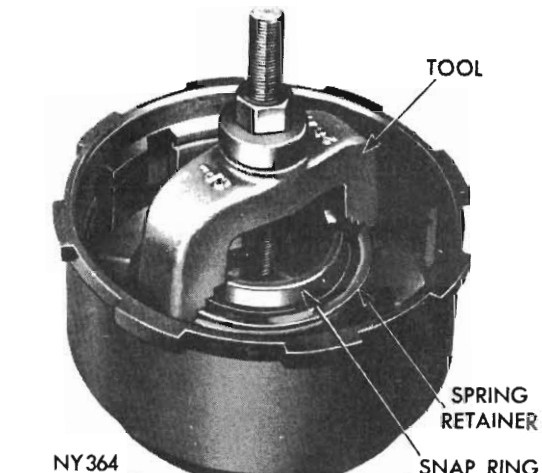
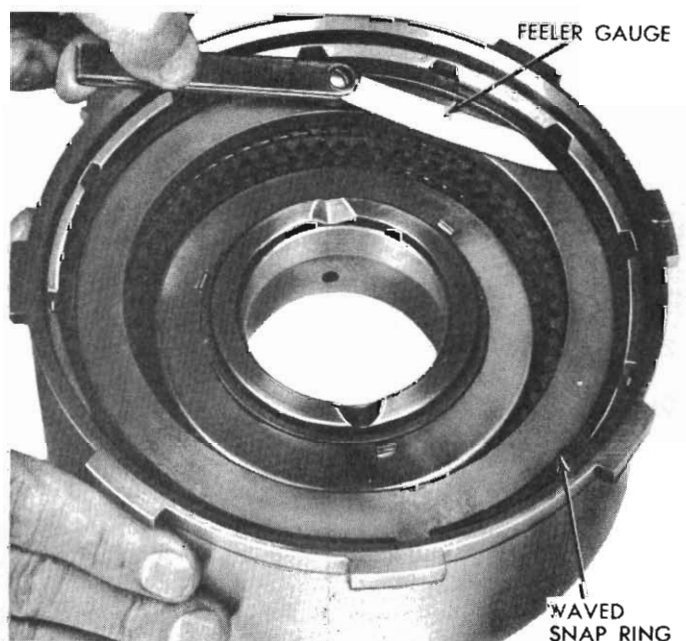

Fig. 71 - Removing or installing front clutch spring retainer snap ring (A-904)
Fig. 73 - Measuring front clutch plate clearance
(1) Remove large waved snap ring that secures pressure plate in the clutch piston retainer. Lift pressure plate and clutch plates out of the retainer.
(2) Install compressor, Tool E21C30C over piston spring retainer (Fig. 71). Compress spring and remove snap ring, then slowly release tool until spring retainer is free of the hub. Remove tool, retainer and spring.
(3) Invert clutch retainer assembly and bump it on a wood block to remove the piston. Remove seal rings from the piston and clutch retainer hub.
(2) Lubricate and install outer seal ring on clutch piston, with lip of seal toward bottom of clutch retainer. Place piston assembly in retainer and, with a twisting motion, seat piston in bottom of retainer.
(3) Place spring on piston hub and position spring retainer and snap ring on the spring. Compress spring with Tool E21C30C (Fig. 71), and seat snap ring in hub groove. Remove compressor tool.
(4) Lubricate all clutch plates, install one steel plate followed by a lined plate until all plates are installed. Install pressure plate and waved snap ring. Make sure snap ring is properly seated.
(5) With front clutch completely assembled, insert a feeler gauge between pressure plate and snap ring (Fig. 73).
(4) Lubricate all clutch plates, install one steel plate followed by a lined plate (disc) until the number given in the specification chart page 21-79 is installed. Install pressure plate and snap ring. Make sure snap ring is properly seated.
(5) With front clutch completely assembled, push downward on pressure plate and insert a feeler gauge between pressure plate and snap ring (Fig. 73). The maximum clearance should be within limits given in the chart (page 21-79).